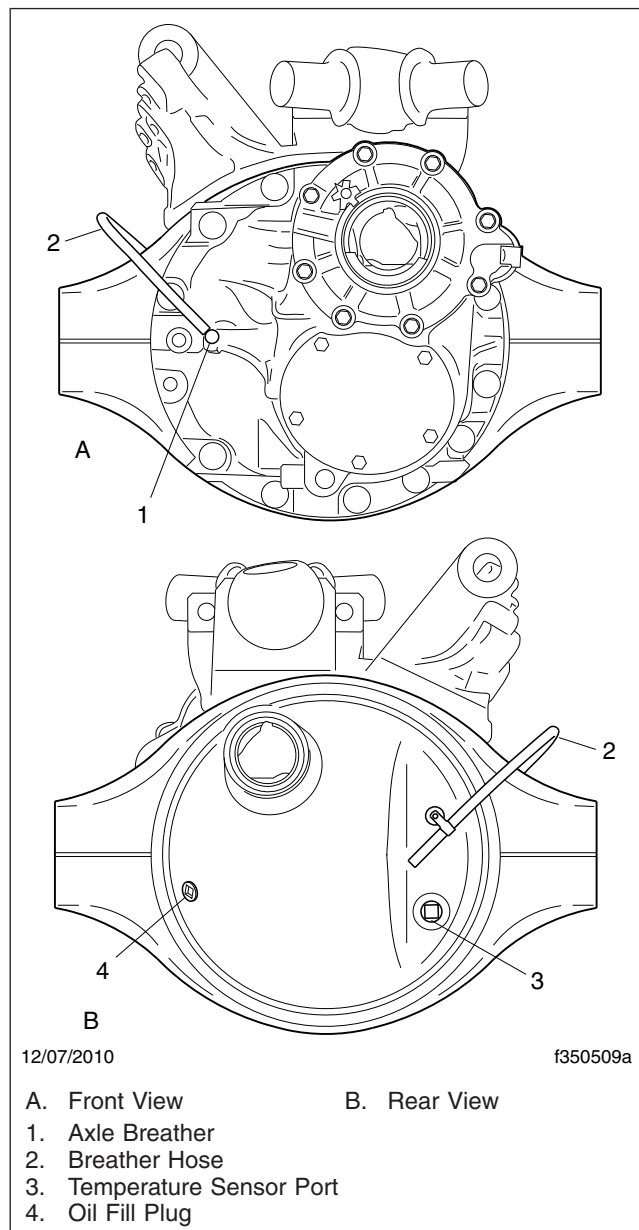

Fig. 1, Detroit Model 4 and Model 6 Tandem Axle (forward axle shown)
2. Clean the fill plug and the area around it. In the axle housing rear cover, remove the plug from the oil fill hole. See Fig. 1.